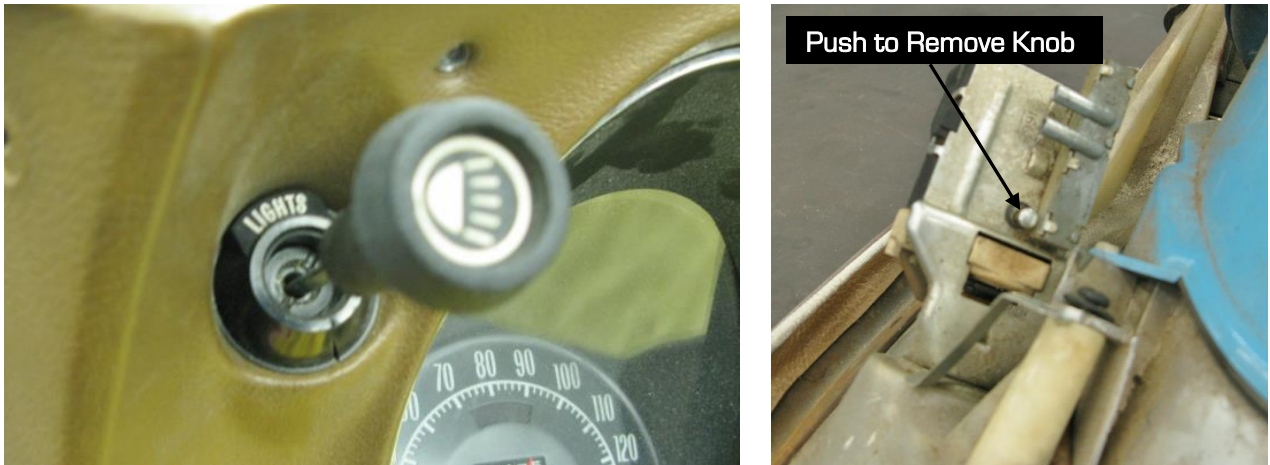

Figure 24 – Remove Headlight Knob
28. Unplug the headlight switch connector to have better access behind the gauge cluster. Remove the headlight switch knob by pulling the switch out as far as it will go. Pull the headlight knob out of the switch while holding down the release button on the top of the switch (Figure 24).